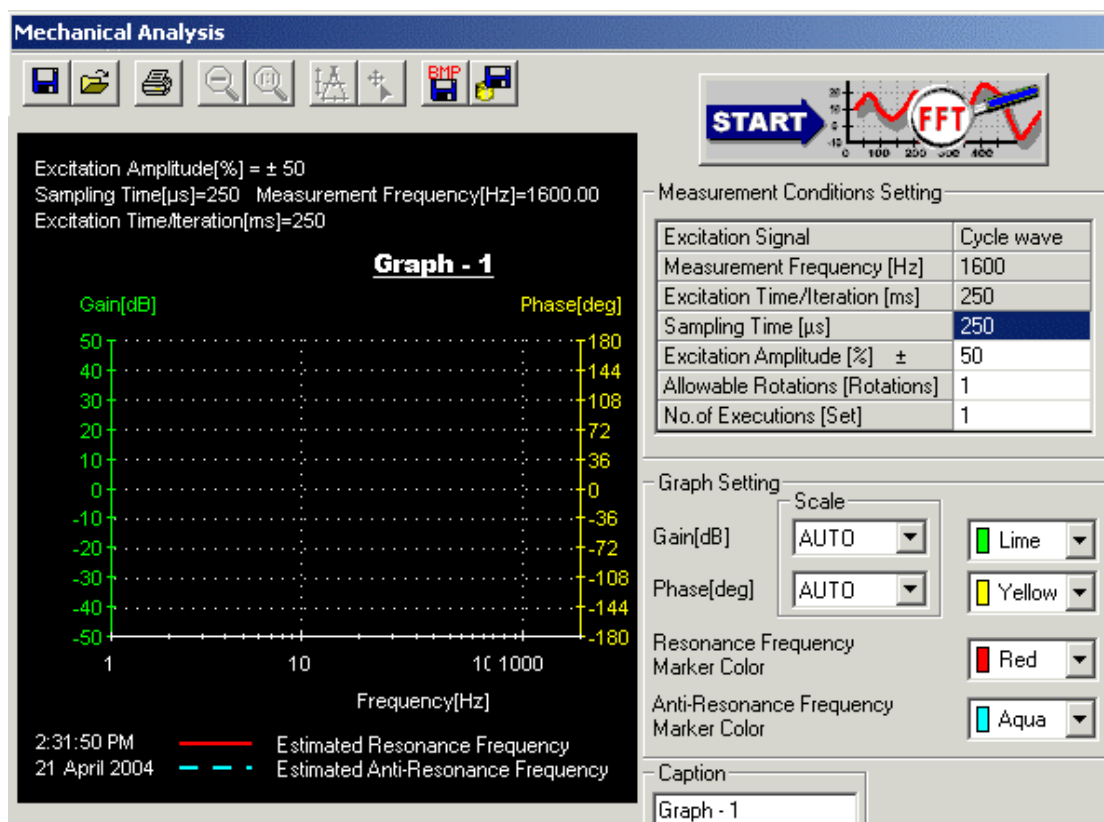

Figure 30: Mechanical Analysis Window
2. Click **OK** to open the *Mechanical Analysis* window (Figure 30).